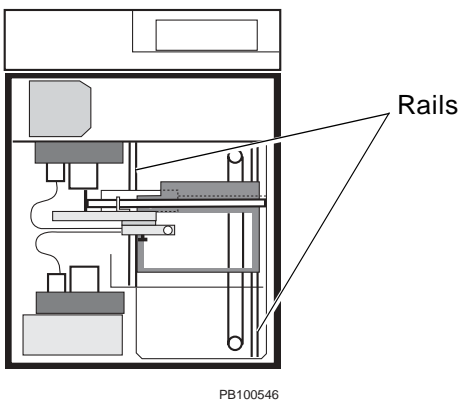

Figure 7-1 Rails
3. Clean the rails shown in Figure 7-1 with ethanol or isopropanol.